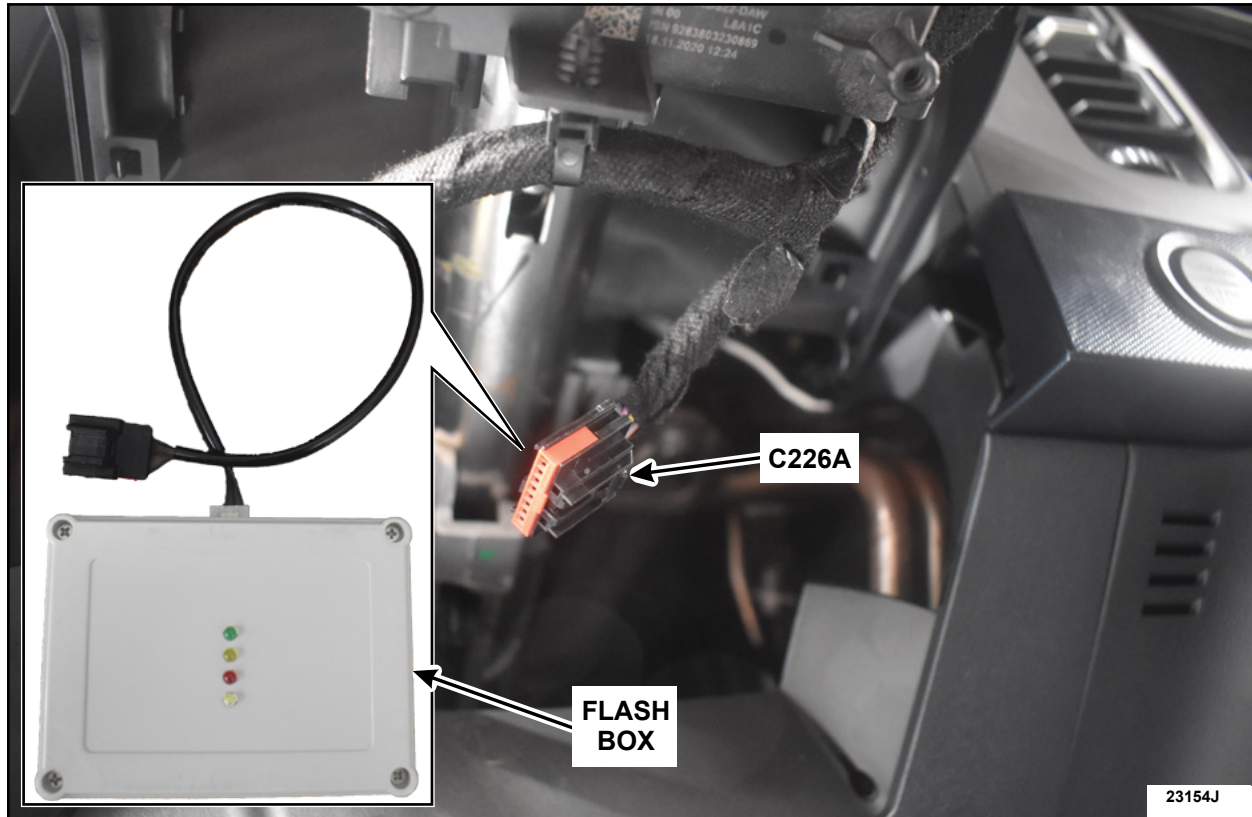

FIGURE 8
6. Connect the flash box to C226A. See Figure 8.